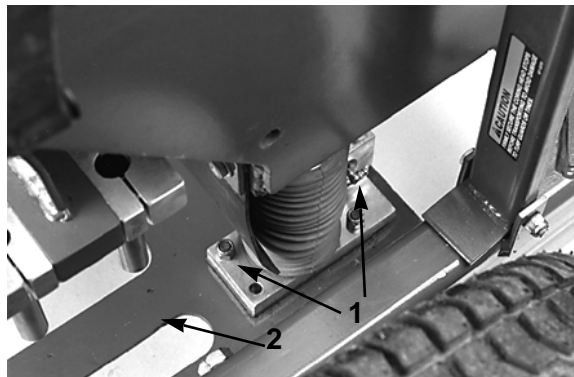

Figure 8
2. Remove the locknuts (4) securing each finger plate assembly and remove the assemblies (Fig. 8).